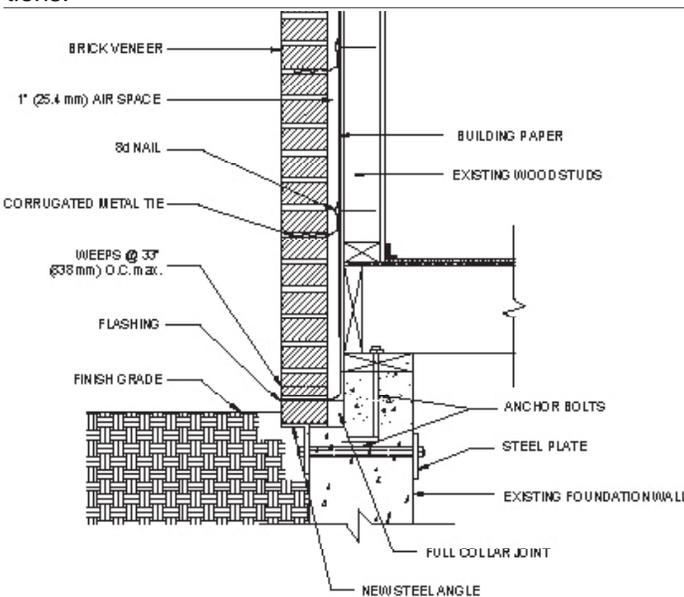

Figure 3
- Increasing the width of the bearing surface by welding a plate to the shelf angle or bolting an inverted shelf angle to the concrete foundation as shown in Figure 3. Consideration must be given to the effect of the increased eccentricity of the brick masonry on the support.